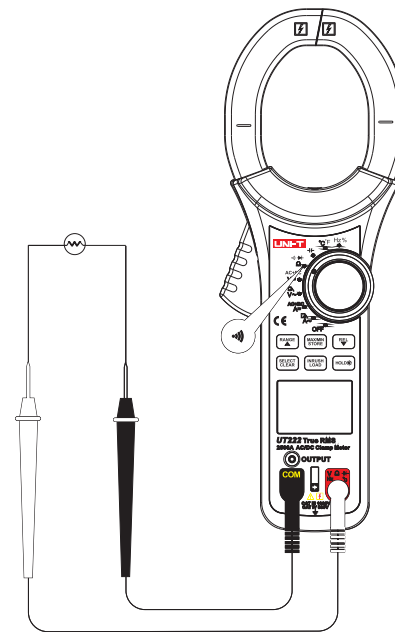

Figure 7
4. Circuit on-off measurement Ω) (See Figure 7)